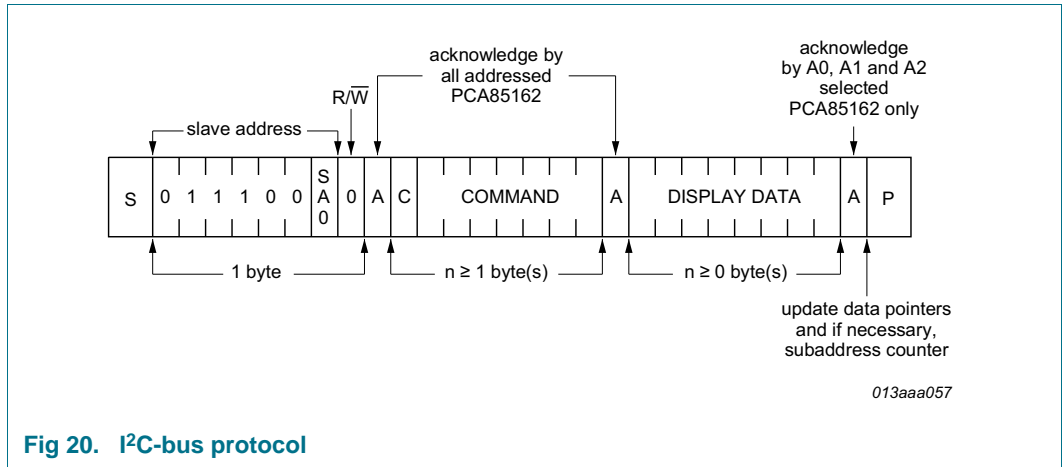

Fig 20. I²C-bus protocol
The I²C-bus protocol is shown in Figure 20. The sequence is initiated with a START condition (S) from the I²C-bus master which is followed by one of the two possible PCA85162 slave addresses available. All PCA85162 whose SA0 inputs correspond to bit 0 of the slave address respond by asserting an acknowledge in parallel. This I²C-bus transfer is ignored by all PCA85162 whose SA0 inputs are set to the alternative level.